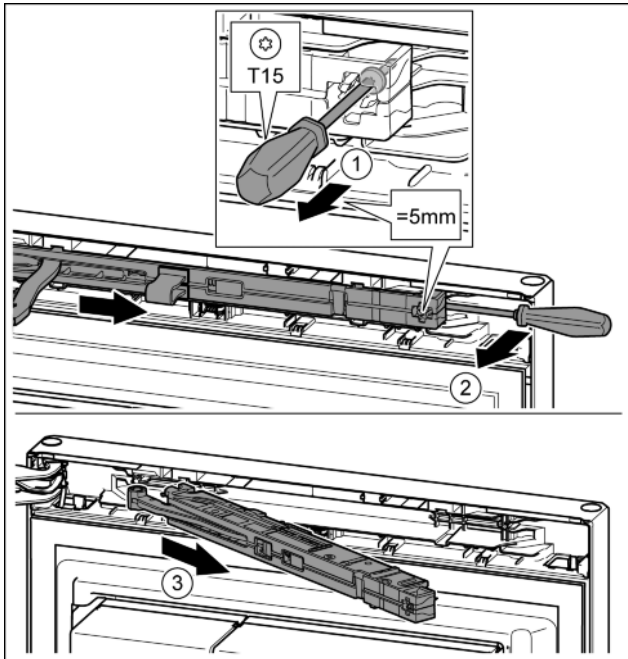

Fig. 13
- Undo the soft-stop mechanism screw with a T15 screwdriver approx. 5 mm. Fig. 13 (1)
- Insert a screwdriver behind the soft-stop mechanism on the handle side and rotate forwards. Fig. 13 (2)
- Remove soft-stop mechanism. Fig. 13 (3)